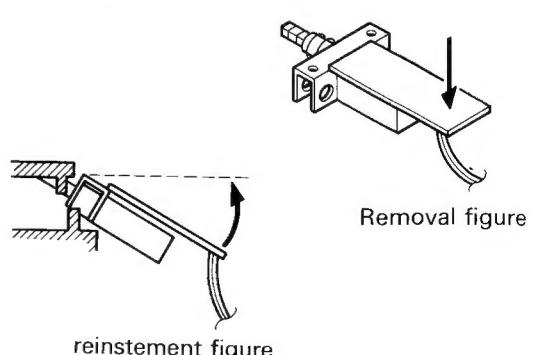

Fig. 5
1. Remove the screw ⑥.
■ Removal of Power Switch (See Fig. 5)